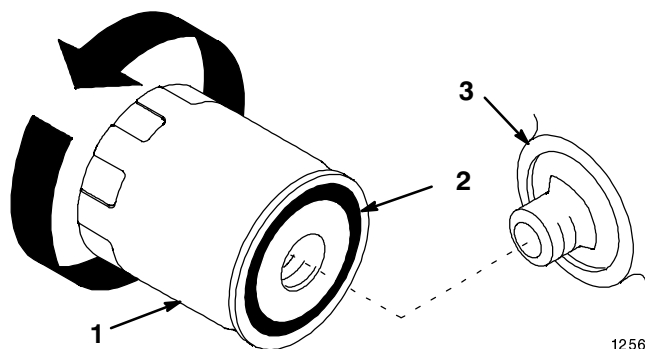

Figure 31
- Remove the old filter and wipe the filter adapter (Fig. 31) gasket surface.
- Apply a thin coat of new oil to the rubber gasket on the replacement filter (Fig. 31).
- Install the replacement oil filter to the filter adapter. Turn the oil filter clockwise until the rubber gasket contacts the filter adapter, then tighten the filter an additional 1/2 turn (Fig. 31).